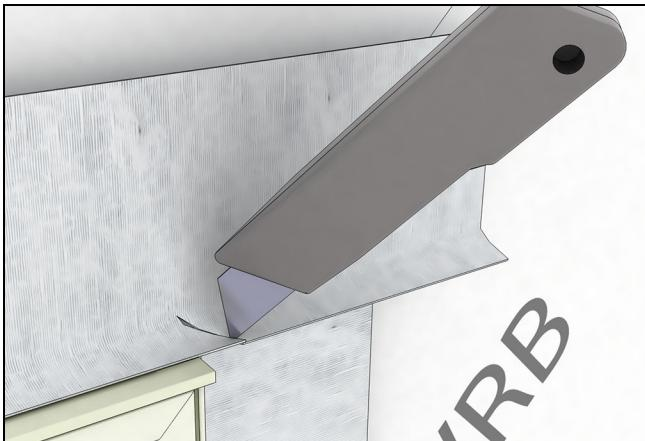
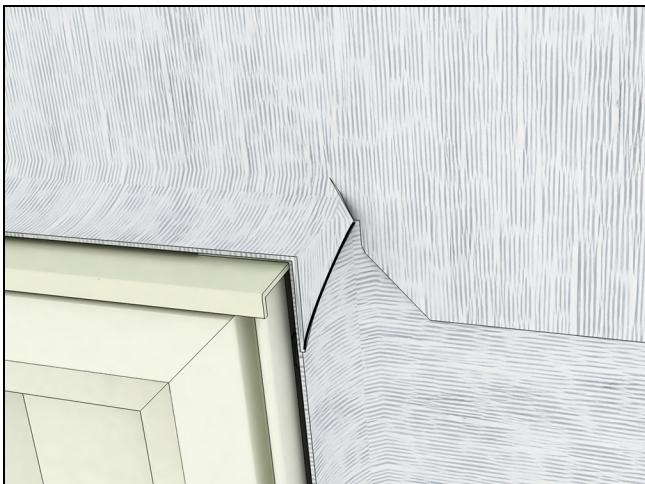

Figure 46
Figure 47
5. Install another layer of adhesive membrane lapping onto the head jamb of the unit and over the sheathing. The membrane flashing at the head jamb should extend and cover the flashing previously installed at the jambs. Make relief cuts and fold down so that it wraps around the jamb See Figure 46 and Figure 47.